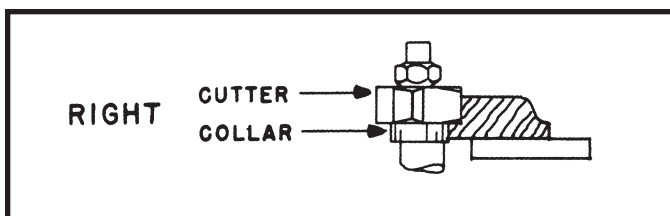

Fig. 36
3. When the collar is used above the cutter (Fig. 36), the operator will be unable to see the cut. However, the advantage in this method is that the cut is not affected by slight variations in the thickness of the stock. Also, accidental lifting of the work will not gouge the workpiece. Simple correction for the mistake is to repeat the operation.